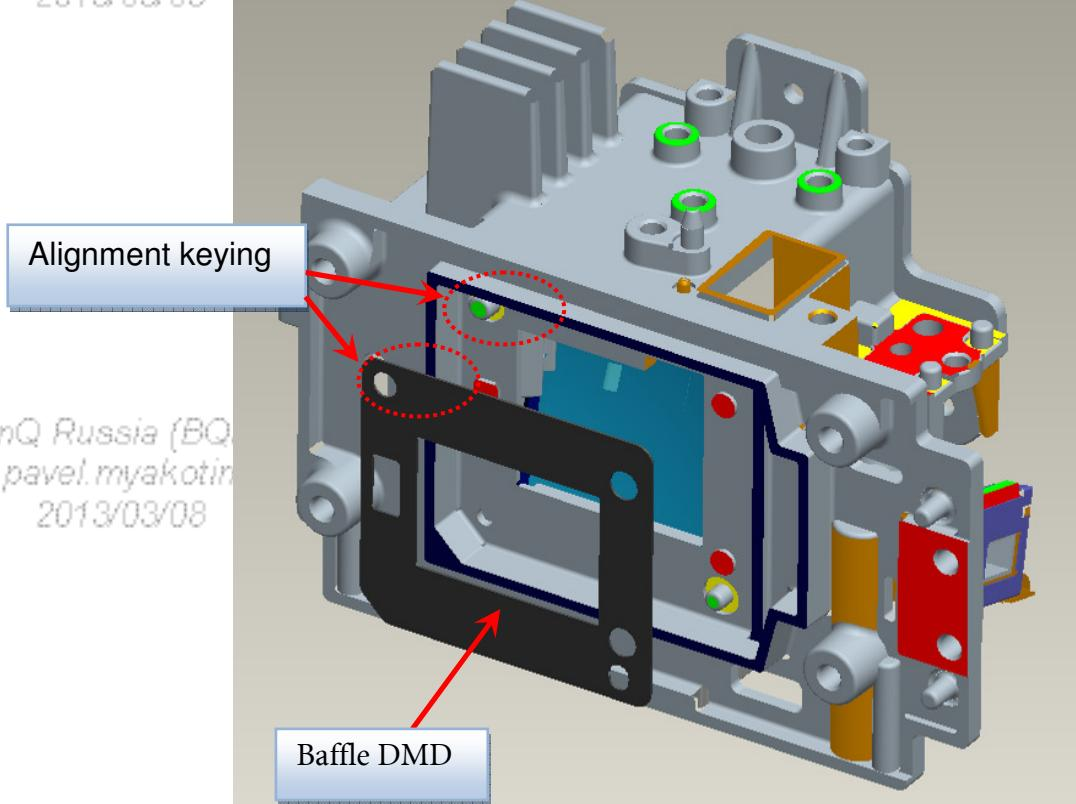

Fig. 5-1
5.1 Assemble “Baffle DMD” to “HSG DMD” (Fig.5-1).